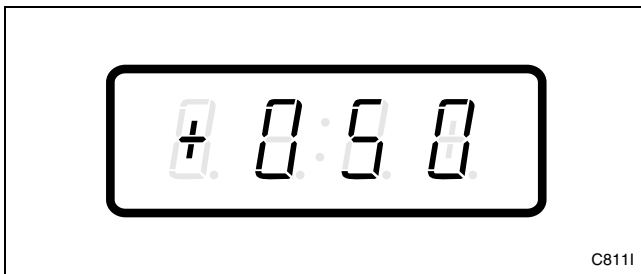

Figure 181
3. Press the DELICATES (+) or the COLD (-) keypad to scroll through the programmable options until “+050” appears in the VFD. Refer to *Figure 181*.